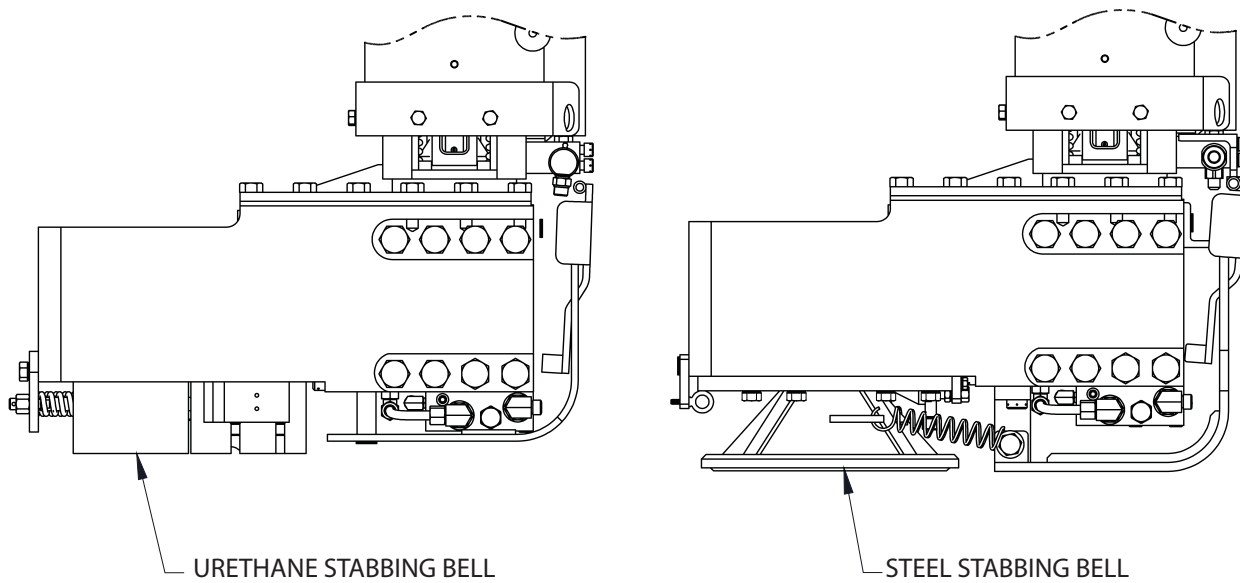

Figure 1: Urethane and Steel Stabbing Bell
1. Determine the type of stabbing bell installed in the backup wrench, see Figure 1: